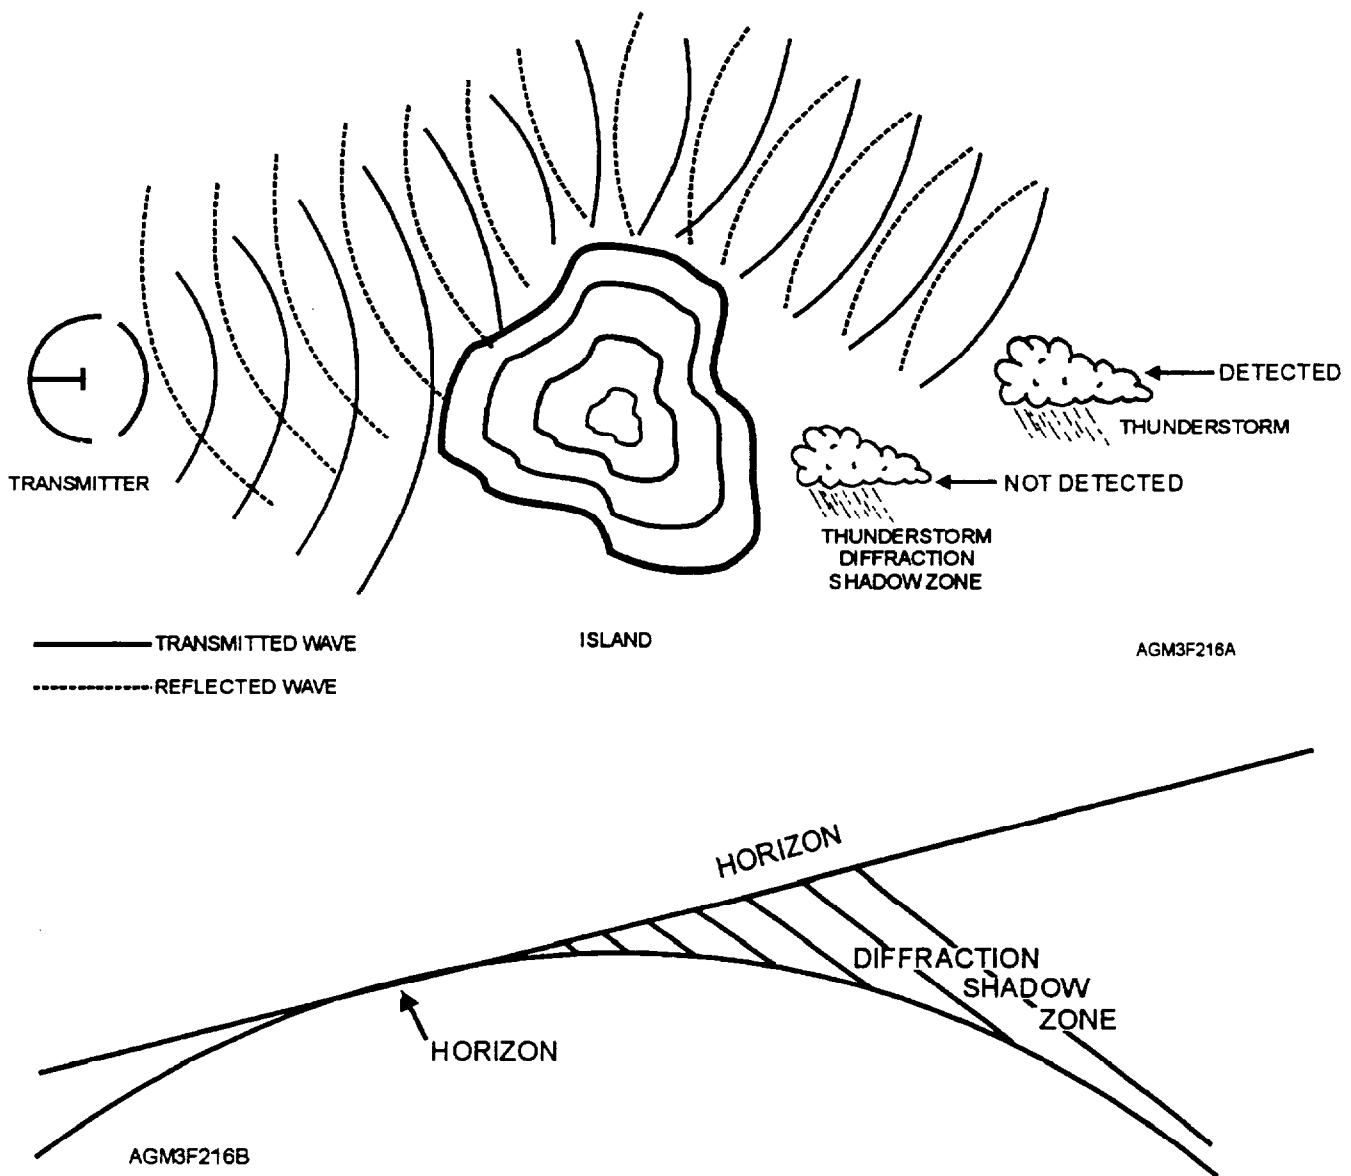

Figure 2-16.—(A) Diffraction of a radar wave front around an obstruction. (B) Radar horizon and diffraction region shadow zone.
Electromagnetic waves tend to follow along the curved surface of an object. Diffraction is the process that causes waves traveling in a straight path to bend around an object or obstruction. The direction of propagating energy is changed so that it spreads into a shadow zone, as shown in figure 2-16, view (A). In the earth-atmosphere system, diffraction occurs where the straight-line distance between the transmitter and receiver is just tangent to the earth's surface as shown figure 2-16, view (B). Generally, the lower the